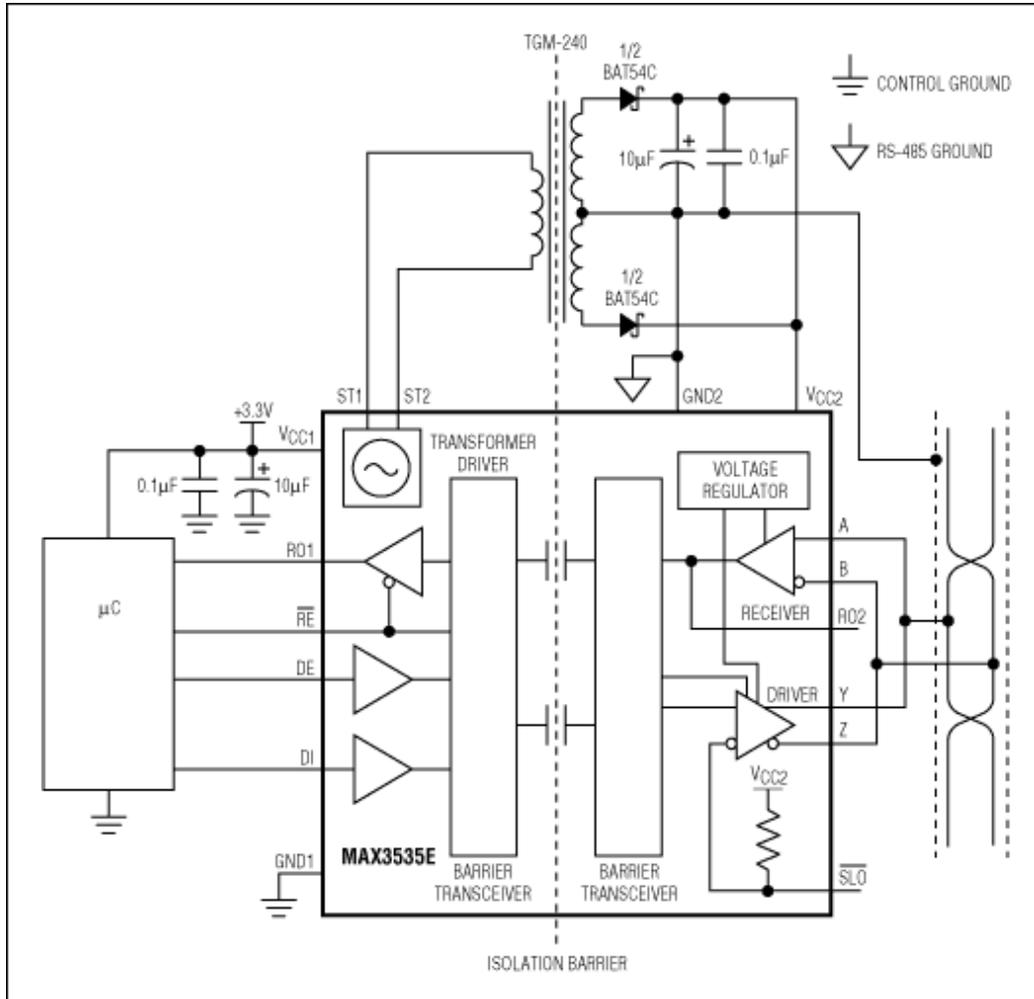

Figure 5. A typical application circuit for the MAX3535E.
**Isolation** The MAX3535 is a monolithic, isolated, 3.3V or 5V, self-powered RS-485 transceiver. It includes capacitive isolation, integrates the RS-485 transceivers, and uses an internal H-bridge driver with an external "off-the-shelf" transformer to provide a monolithic, isolated RS-485 solution in a 16-pin SO package. This greatly reduces the design effort by eliminating the need for an extra winding on the flyback power supply and opto couplers. Furthermore, because the MAX3535 is self-powered, the RS-485 port can remain functional even when the meter is operating from battery power. The MAX3535E also includes hot-swap, fail-safe, extended ESD, and slew-rate limiting (**Figure 5**).